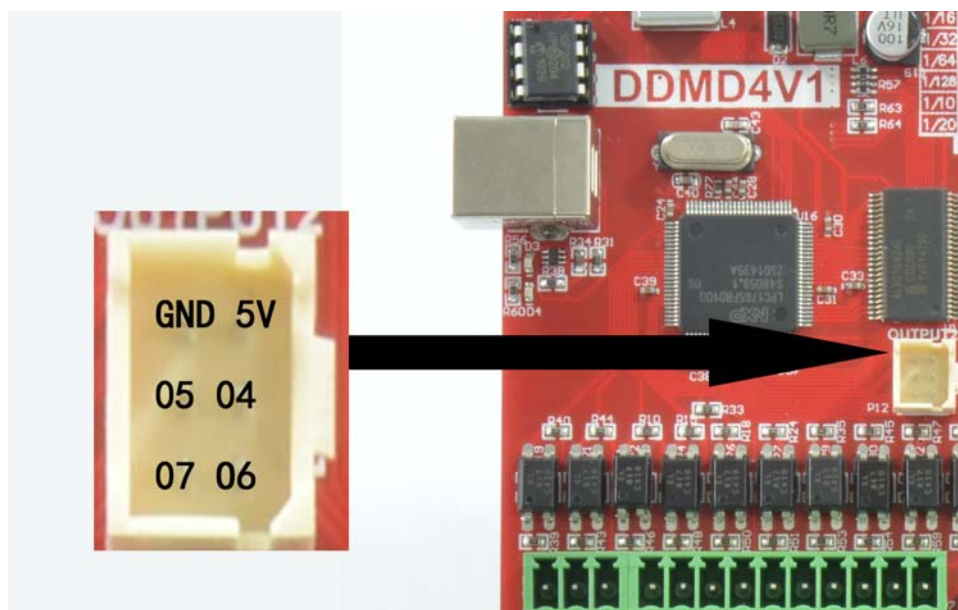

Figure2-11. special output port
- R)Common IO output. PHB-2.0 special port. This port supply only 2mA current. If you want connect this port to optocoupler, you should boost the current. This port can connect to 4-relay board from our company. The definition of this port see as figure 2-11.